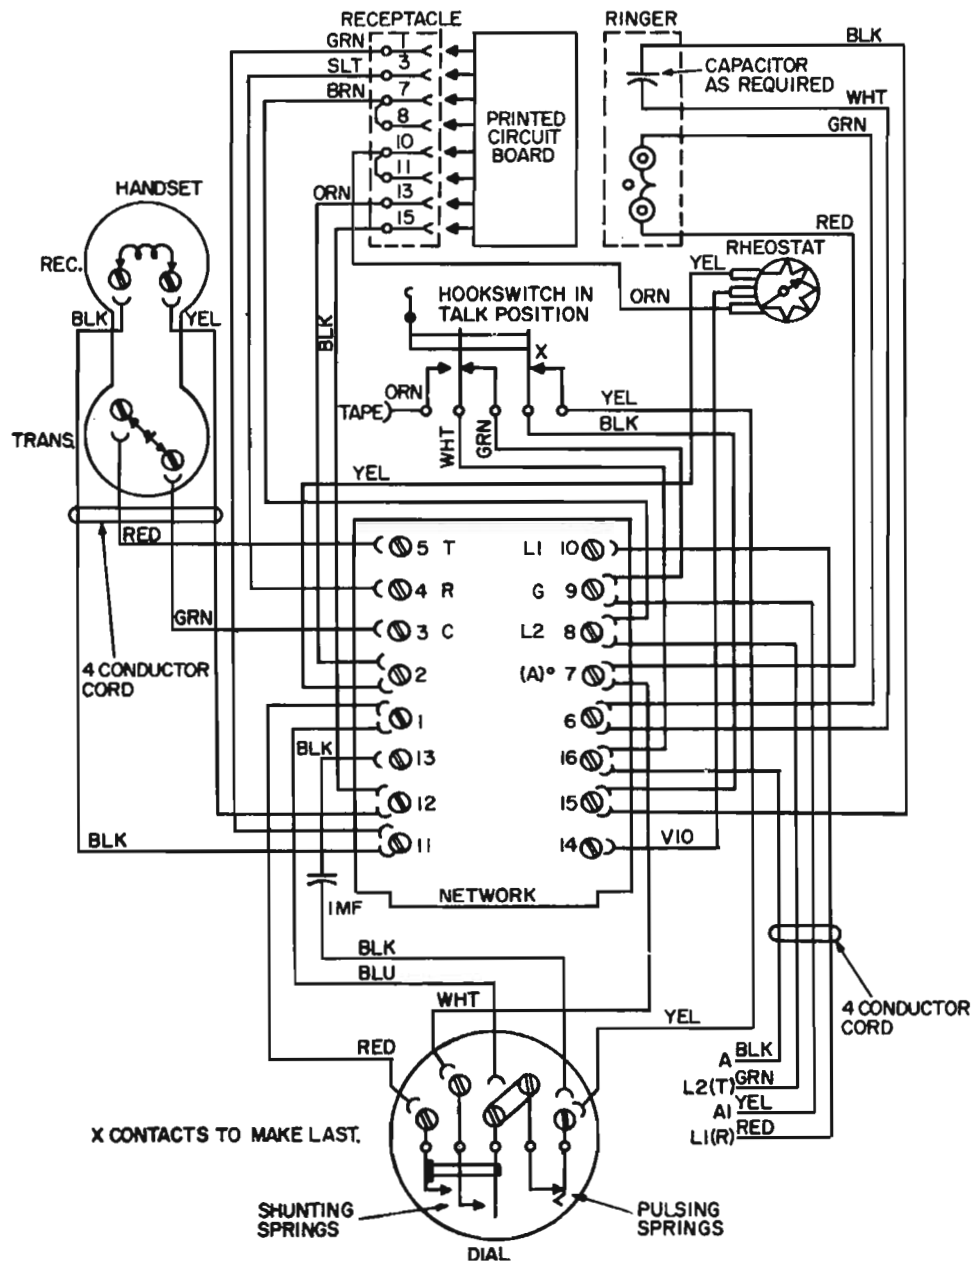

Figure 1. Wiring Diagram of Modified Type 80T Telephone Set Equipped With D-38362-A Network.
2.01 The wiring diagram of a Type 80T amplified-receiver telephone set equipped with a D-38362-A network is shown in Figure 1 as modified for key system operation. The modification procedure is set forth in steps (1) through (9) below.